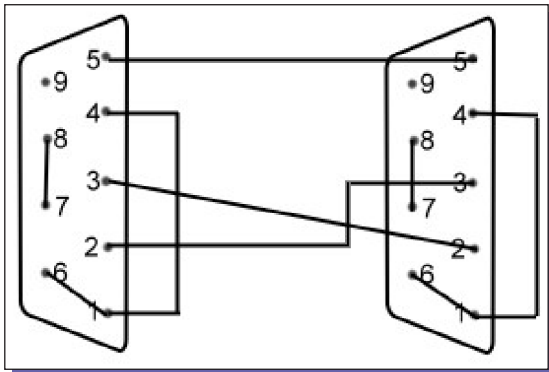

Figure 3: Null modem cable configuration
2. Connection diagram – The connection diagram (Figure 3) shows the wiring of the null-modem that is intended for RS232 asynchronous communications (most PC-based systems). This configuration is called so because each PC terminal detects as if some modem is connected to it rather than the other PC.